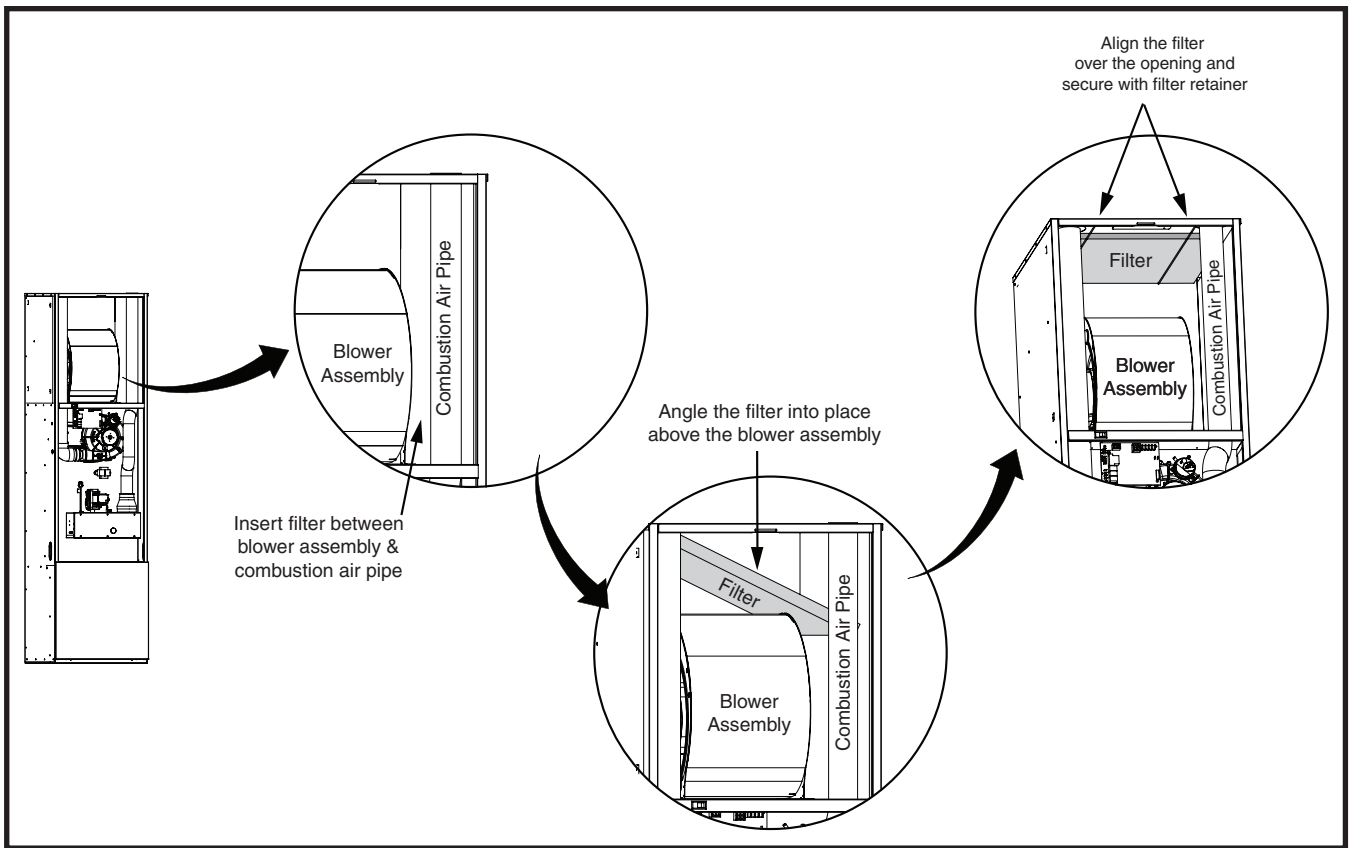

Figure 8. Filter Installation
1. Slide the standard 18" x 18" x 1" filter into the space between the combustion air pipe and the blower assembly. See Figure 8 \(page 14\). **NOTE:** Make sure the airflow arrows on the filter point towards the blower assembly.